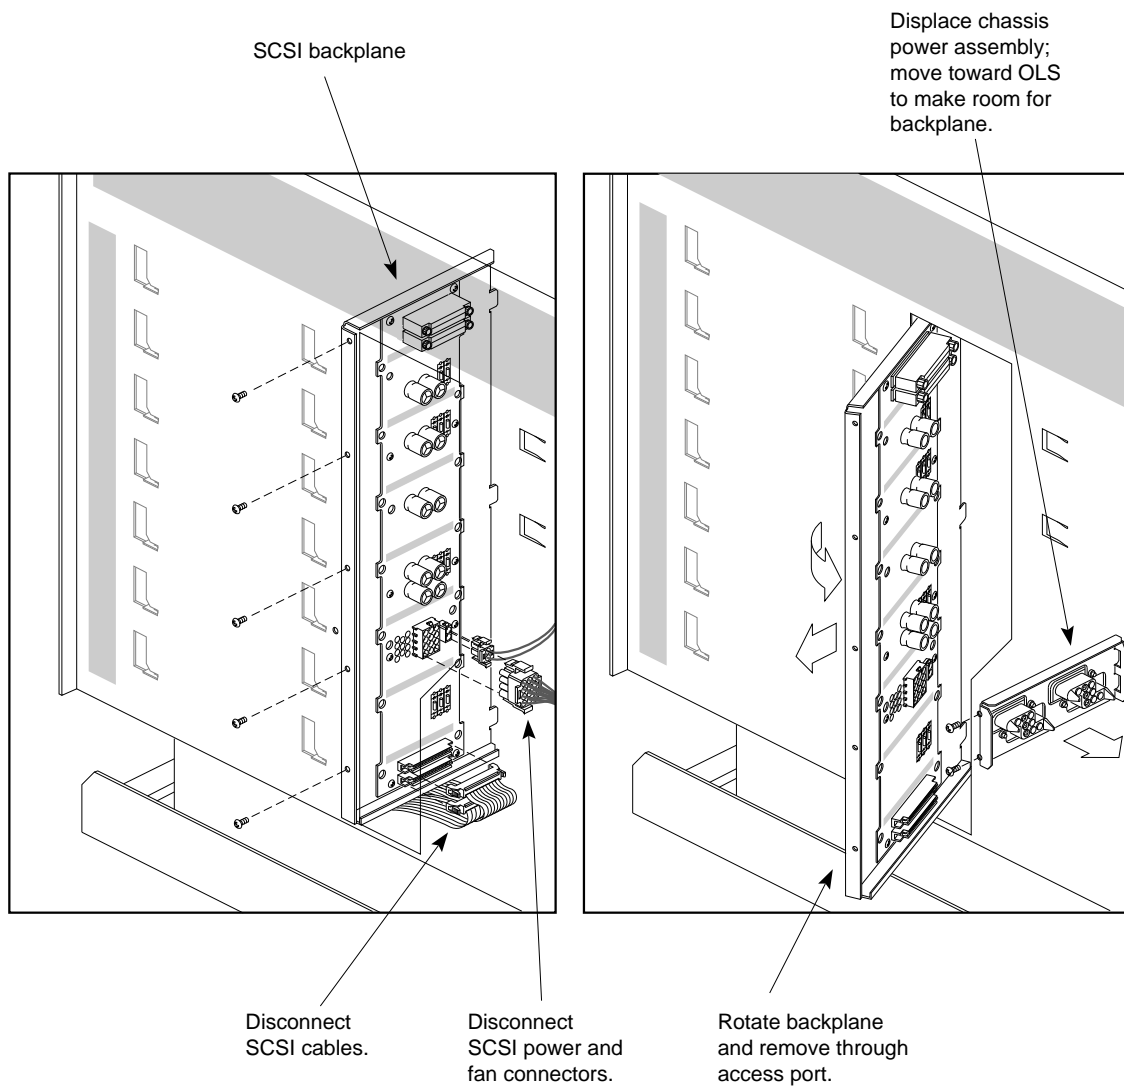

Figure 5-94 Removing the Bulkhead Assembly
10. Remove the five screws that attach the drive bulkhead assembly to the center of the sheet-metal housing (see Figure 5-94).